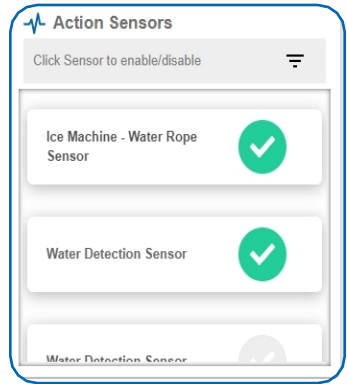

Figure 26
- By default, the sensor(s) will not be assigned to the action conditions you've just set. To assign a sensor, find the device(s) you want to designate for this action and select. Selected sensor boxes will turn green when activated. Choose the sensor box again to unassign the sensor from the action. See Figure 26.